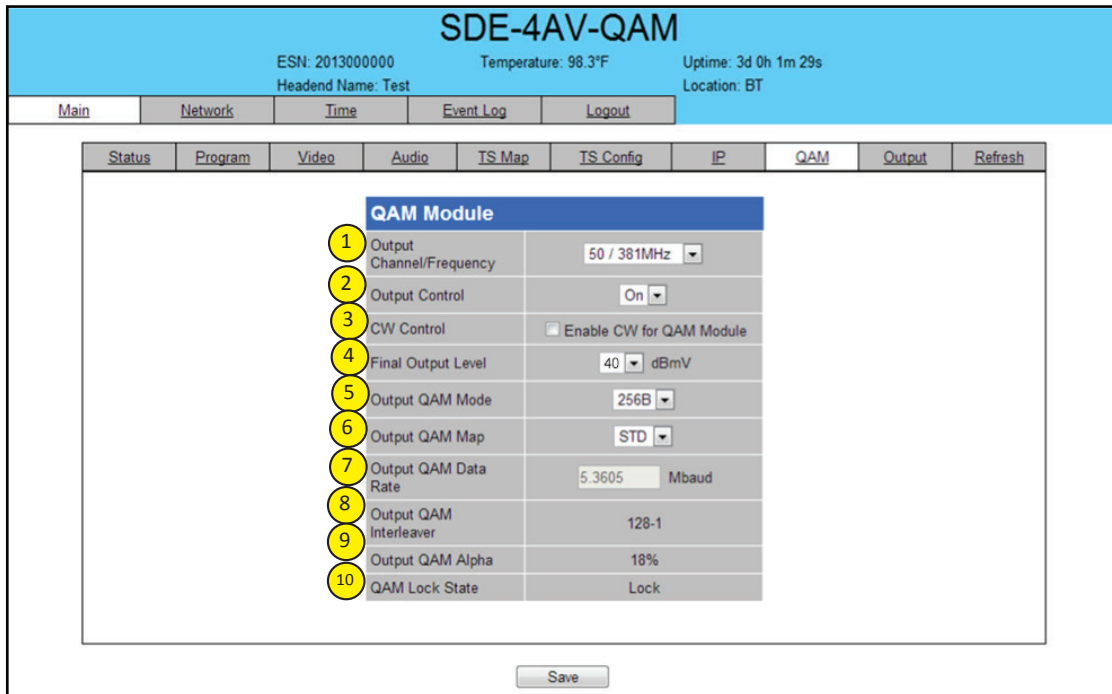

Figure 5.9 - "Main > QAM" Screen
The "Main > QAM" screen (Figure 5.9) is a "read and write" screen to assign QAM parameters to the TS:
- 1 **Output Channel/Frequency:** must assign an RF channel number to the RF QAM output of the QAM module (i.e. RF channel 50, as shown in Figure 5.9). The range is CATV channels 2 to 158.